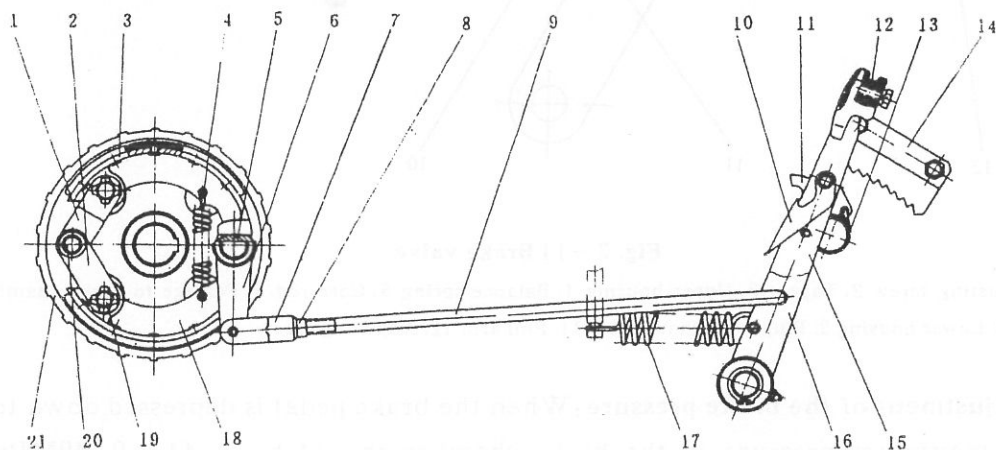

Fig. 3-13 Brake assembly
d. Adjust the length of steering cylinder assembly by the connecting screwed pipe (Fig. 3-13). Then tighten the Nut M16×1.5 and Nut M16×1.5(left).
2) The brake (Fig. 3-13)